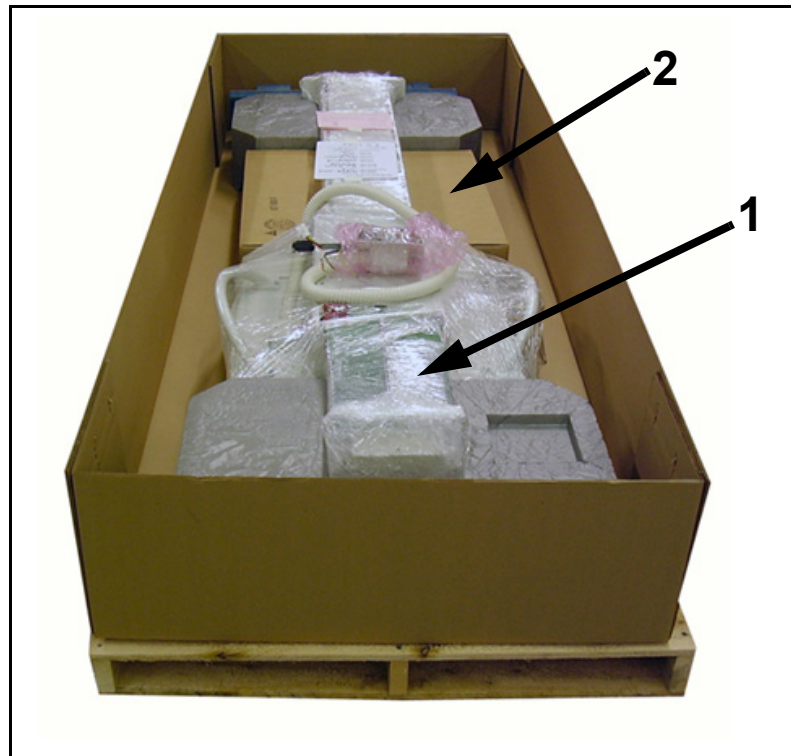

Figure 2-2. Unpacking Crate
- 2 Lift the wallstand (1 in Figure 2-2) out of the crate and lean it against the wall where you intend to install it.
- 4 Remove the accessories box (2 in Figure 2-2) from the crate. The crate contains the manuals and the bucky cable (for film-based systems). The digital receptor system is packaged separately.